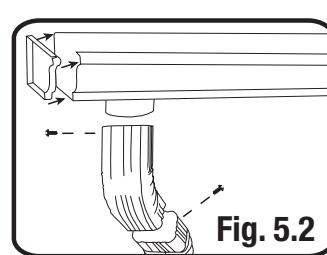

Fig. 5.2
- Attach a front or side elbow at the bottom to direct water away from the foundation. (Fig. 5.2)